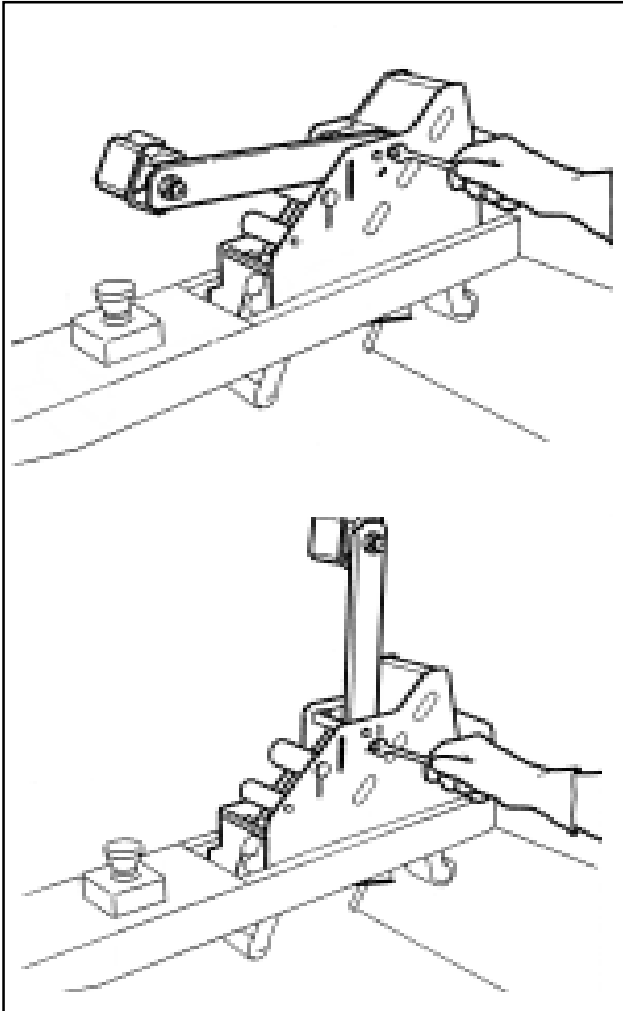

Figure 2-8—Lower Tape Drum Bracket Position
17. Ensure that the tape drum bracket assembly, located on the upper and lower taping heads, is mounted vertically, as shown in Figure 2-8. The tape drum bracket assembly may be pivoted to provide tape roll clearance if necessary.